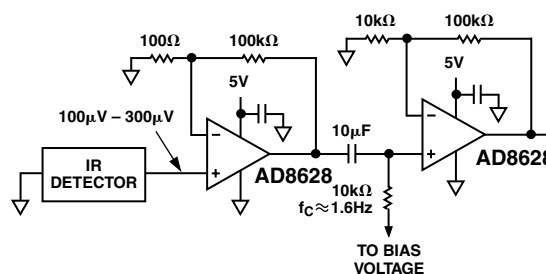

Figure 13. Preamplifier for Thermopile
Infrared (IR) sensors, particularly thermopiles, are increasingly being used in temperature measurement for applications as wide-ranging as automotive climate controls, human ear thermometers, home-insulation analysis, and automotive repair diagnostics. The relatively small output signal of the sensor demands high gain with very low offset voltage and drift to avoid dc errors. If interstage ac coupling is used (Figure 13), low offset and drift prevents the input amplifier's output from drifting close to saturation. The low input bias currents generate minimal errors from the sensor's output impedance. As with pressure sensors, the very low amplifier drift with time and temperature eliminates additional errors once the temperature measurement has been calibrated. The low 1/f noise improves SNR for dc measurements taken over periods often exceeding 1/5 second. Figure 15 shows a circuit that can amplify ac signals from 100 μV to 300 μV microvolts up to the 1 V to 3 V level, gain of 10,000 for accurate A/D conversion.